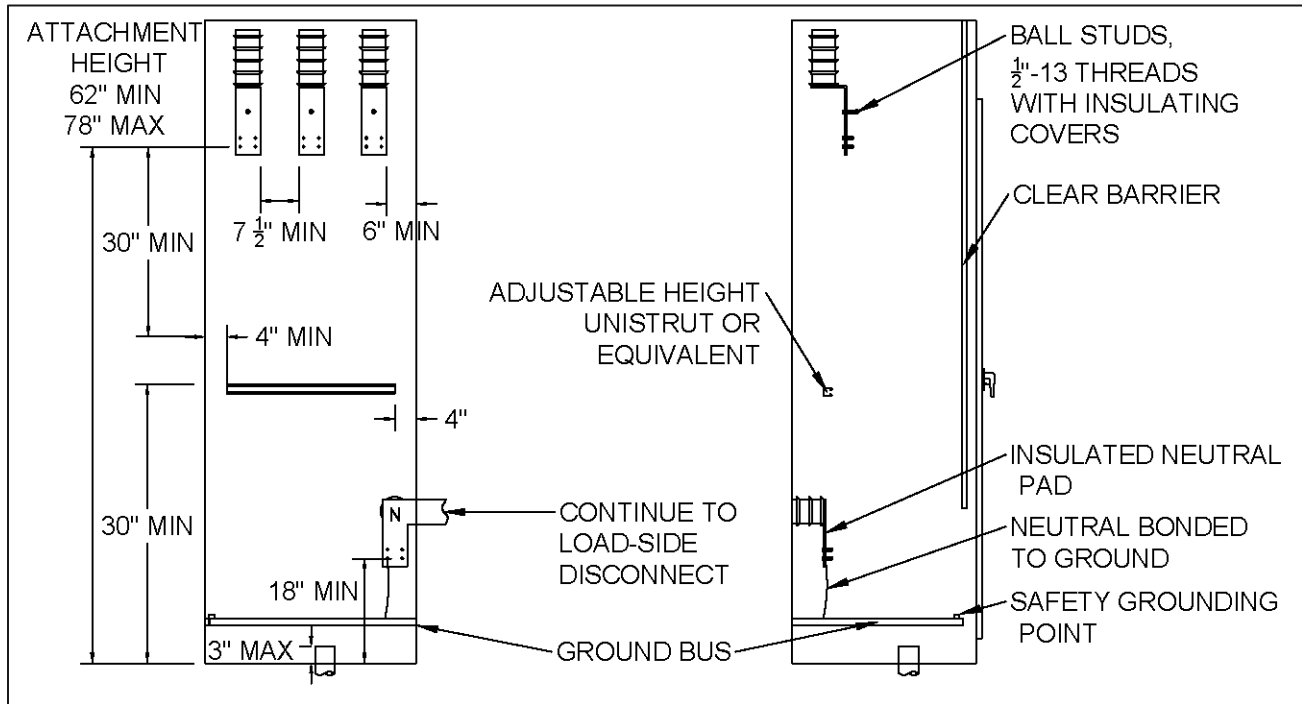
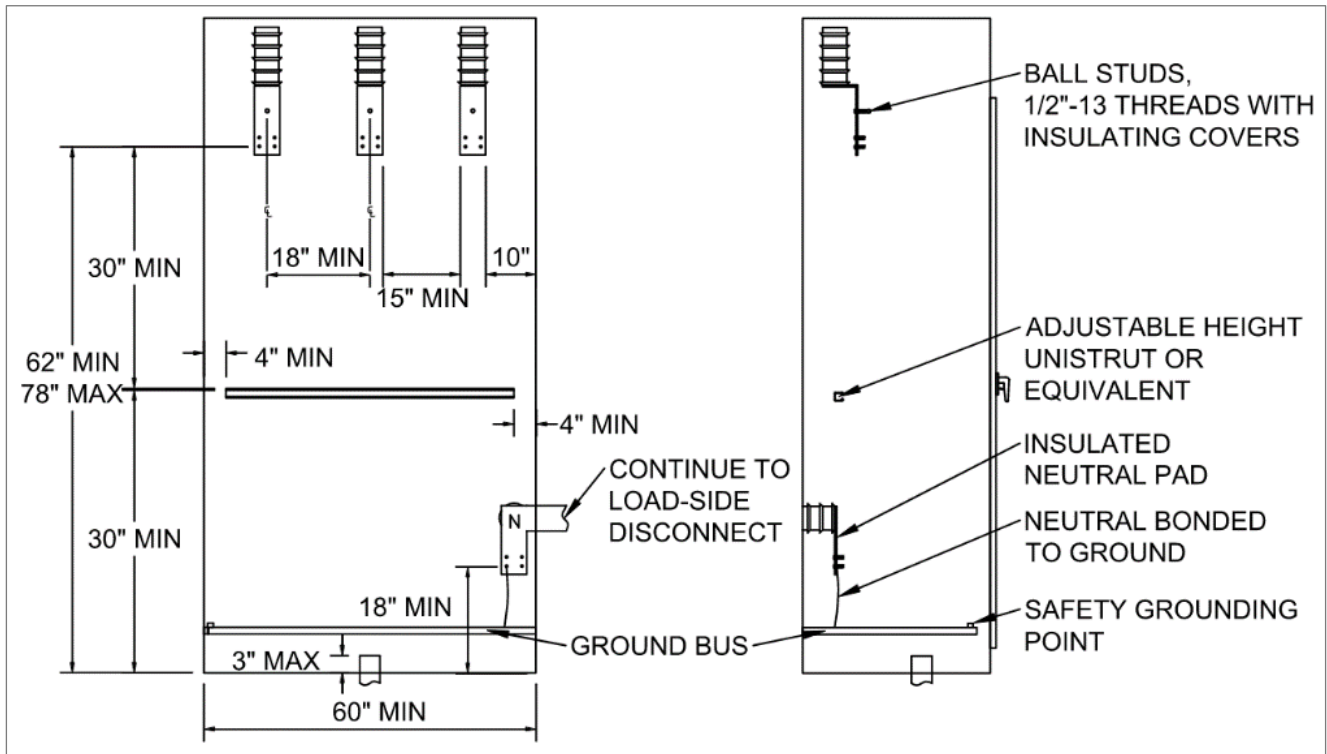

Figure 10: Termination Compartment Clearances for 12.47 kV (STD-M-3301)
Figure 11: Termination Compartment Clearances for 34.5 kV (STD-M-3601)
- b. Between the termination lugs and the access door. This barrier must be hinged to allow unobstructed access to the terminations as shown in Figure 10.
3. A minimum 0.25-inch clear polycarbonate insulating barrier is required between the termination lugs and the access door. The polycarbonate (such as Lexan or Makrolon) must be electrically insulative, transparent, and meet applicable codes (NEC, UL). This barrier must be hinged to allow unobstructed access to the terminations as shown in Figure 10 and Figure 11.
For services up to 12.47 kV, the termination section must meet the requirements defined in EUSERC 418, as well as those shown in Figure 10 and the following:
For 34.5 kV services, the termination section must meet PGE's requirements, as shown in Figure 11 and listed below.